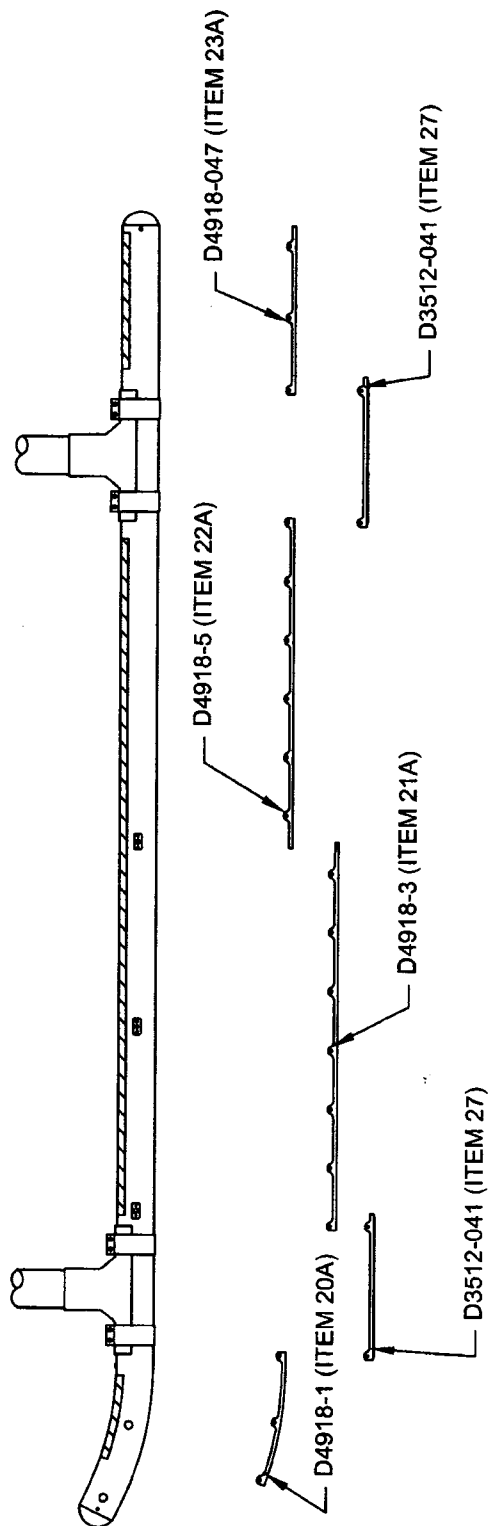

FIGURE 1: WEARPLATE INSTALLATION
- 32.3.3 INSTALL REPLACEMENT D4918-1/-3/-5/-047 WEARPLATES USING AN3C BOLTS AS APPLICABLE AS SHOWN IN FIGURE 1 OF THIS SERVICE INSTALLATION. INSTALL (QTY 2) D3512-041 WEARPLATES (ITEM 27) OVER FWD AND AFT CLAMPS AS SHOWN IN FIGURE 1 USING AN3C BOLTS AND AN960C10L WASHERS. TORQUE BOLTS 15-25 IN-LB (1.7-2.8 N-m). SEAL WEARPLATE INSERTS USING SIKAFLEX-241/-291 OR PROSEAL 890 MIL-S-8802 CLASS B2 SEALANT.